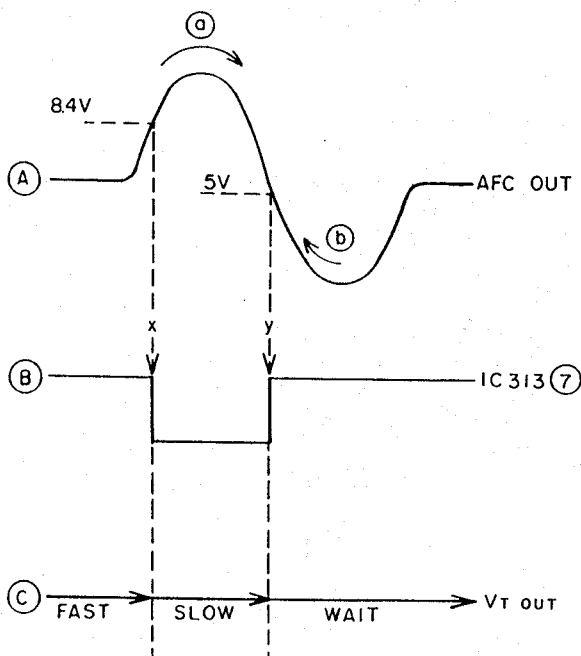
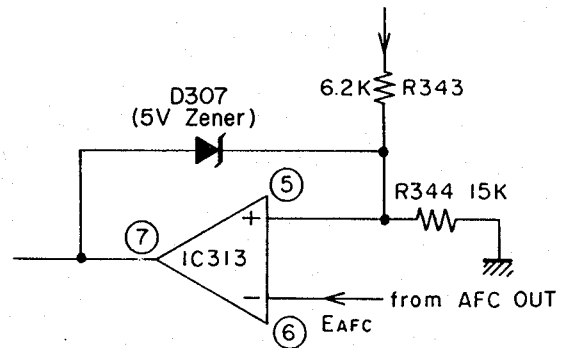

Fig. 27
Fig. 28
- 4) When the tuner receives broadcast or noise, the waveform shown in Fig. 27 is outputted at AFC OUT. This AFC output is inputted in IC313 ⑥. This circuit is called AFC comparator and the operation is described by using Fig. 28.
8 bits output from microcomputers ⑬ ~ ⑳ is inputted into IC309 D-A converter IC309 ⑤ ~ ⑫, taken out of IC309 ④ as analogue current output, converted into analogue voltage by IC310, and CR302 and added to Analogue SW IC311 ①. On the other hand, IC307 ②② → 'L' → TR310 → ON → IC311 ⑥ → H → IC311 ⑧ - ⑨ → ON → C306 (terminal voltage) is passed through R351 (When UHF, ON between TC311 ③ and ④, so directly), added to IC312 ⑥, inverted by IC312 and added to IC310 ②. This terminal voltage of C306 will be the reference voltage in tuning. (This reference voltage is a little higher than the flat portion of Fig. 27, and the reason is that it can be drawn sufficiently even when it enters the ⑥ part).
- 7) IC313 (7) changes at the exact tuning point or near to it as shown by y point of Fig. 27 (B). The VT changes slowly because it passes the differentiation circuit after IC309 (DA converter). Therefore, the scanning is finished at a point beyond the best tuning point. Here, after one step down, the exact tuning point is checked by the program incorporated within the microcomputer IC307. If the exact tuning point is the place where one step is returned, it is kept as it is, but if different, one step is returned to the original place. After AFT is turned ON, video or noise is determined.